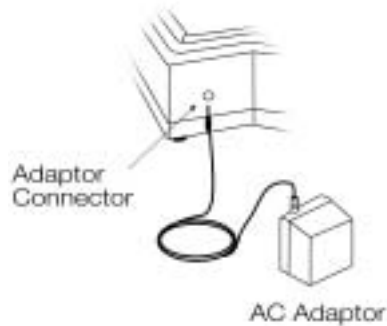

Figure 1-3. AC Adapter Connection
4. Plug the AC adapter into the back of the unit (see Figure 1-3).